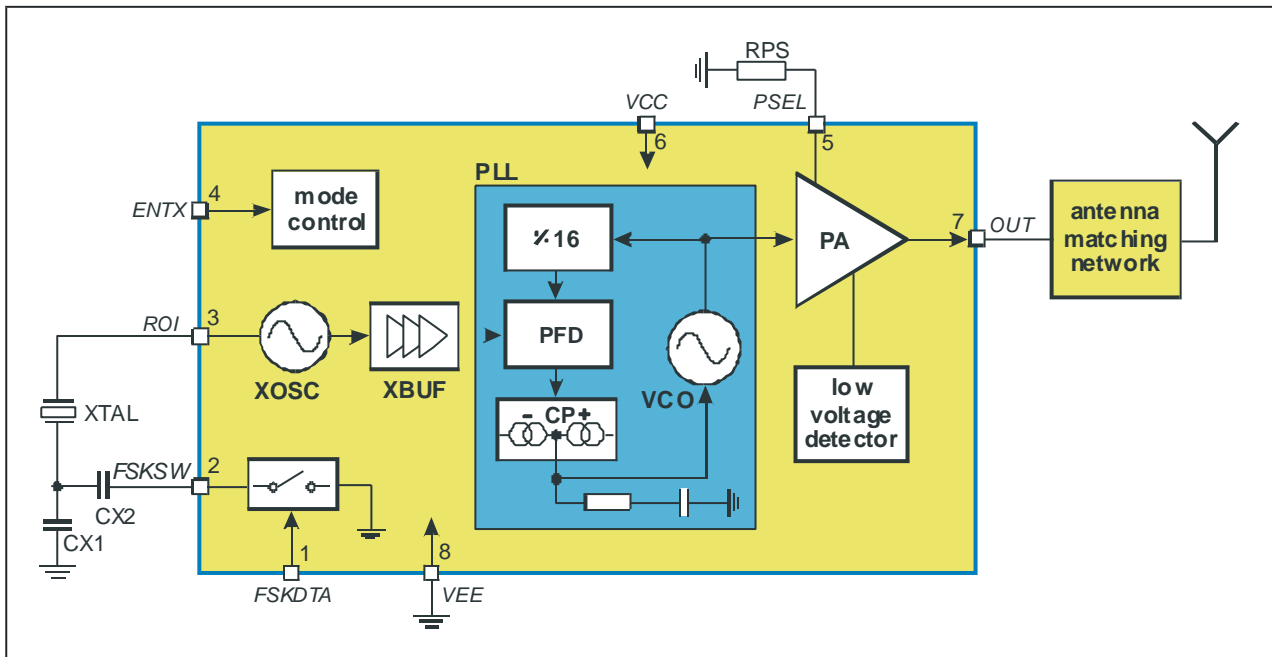

Fig. 1: Block diagram with external components
As depicted in Fig.1, the MLX72013 transmitter consists of a fully integrated voltage-controlled oscillator (VCO), a divide-by-16 divider (div16), a phase-frequency detector (PFD) and a charge pump (CP). An internal loop filter determines the dynamic behavior of the PLL and suppresses reference spurious signals. A Colpitts crystal oscillator (XOSC) is used as the reference oscillator of a phase-locked loop (PLL) synthesizer. The VCO's output signal feeds the power amplifier (PA). The RF signal power  $P_{out}$  can be adjusted in four steps from  $P_{out} = -14$  dBm to +11 dBm, either by changing the value of resistor RPS or by varying the voltage  $V_{PS}$  at pin PSEL. The open-collector output (OUT) can be used either to directly drive a loop antenna or to be matched to a 50Ohm load. Bandgap biasing ensures stable operation of the IC at a power supply range of 1.95 V to 5.5 V.